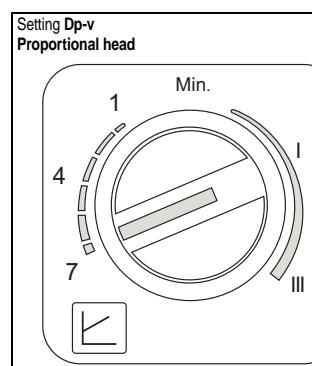

fig. 17
- Setting Dp-v Proportional head (fig. 17)